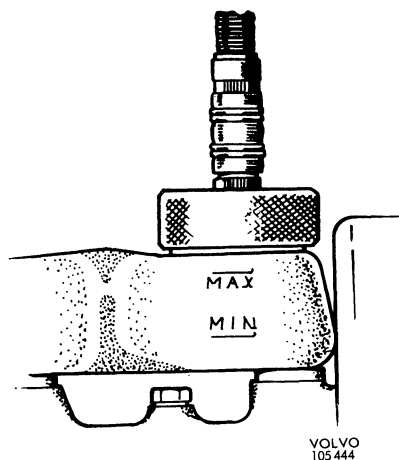

Fig. 5-63. Connecting unit
4. Fit on the container a cap specially used when bleeding, see Fig. 5-63. Connect the bleeder unit according to the instructions of the manufacturer. The working pressure is 2 kp/cm² (28.4 p.s.i.). The type of bleeder unit which may be used is shown in Fig. 5-5.